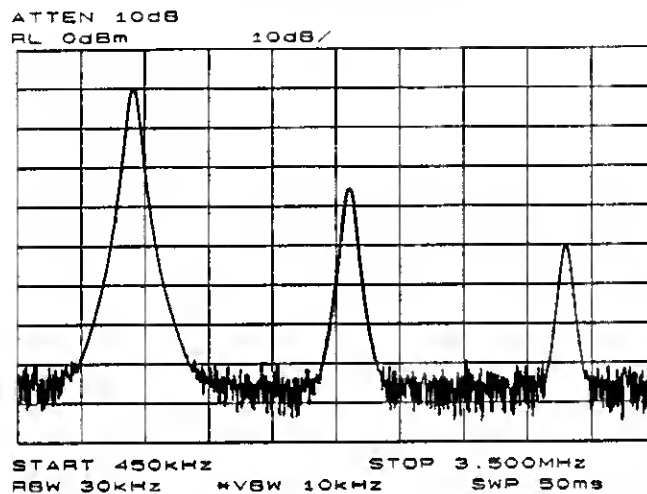

Figure 3-1. Input Signal and Harmonics
1. For measuring the 1 MHz fundamental and its first two harmonics, set the start frequency to 450 kHz and the stop frequency to 3.5 MHz. This displays the fundamental frequency and the second and third harmonics as shown in Figure 3-1. To improve visibility, smooth the noise by pressing **BW** and then **VIDEO BW AUTO MAN** until MAN is selected. Now use the step down **▼** key as desired.